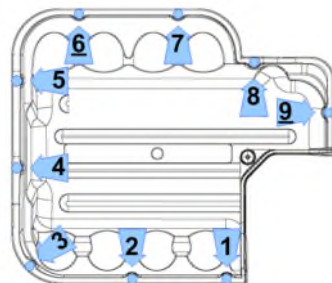

Figure 5 – Top Cover Install
2. Place the Top Cover and secure it with the fasteners according to the following sequence. Follow the sequence twice. The first time, only thread the fasteners half way down to allow for adjustments. Torque to 13 in.lb. on the second pass. Refer to Figure 5 (Top Cover Install).